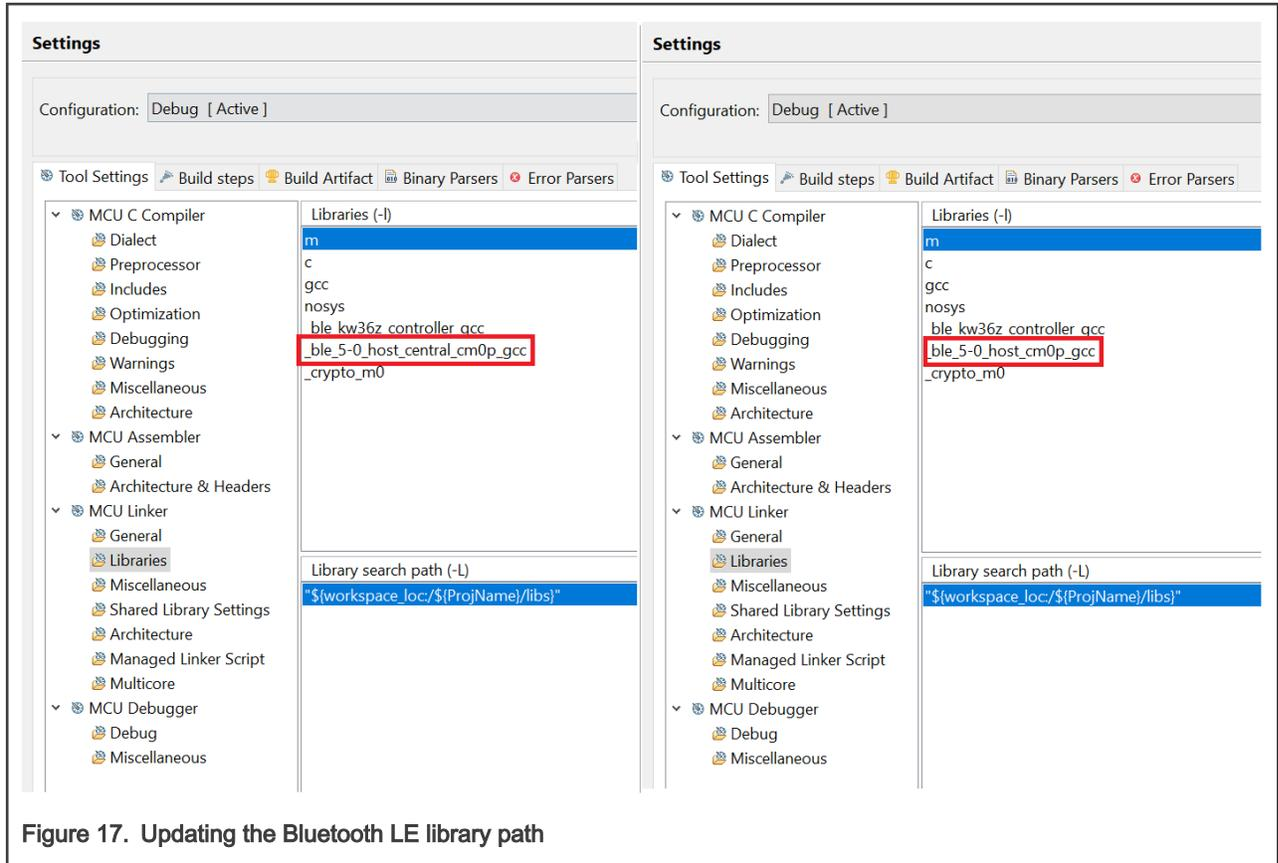

Figure 17. Updating the Bluetooth LE library path
7. Open the **MCU Linker -> Libraries** view. Remove the `_ble_5-0_host_central_cm0p_gcc` library and replace it with the `_ble_5-0_host_cm0p_gcc` library, as shown in Figure 17. Then, click **OK** to save the changes.